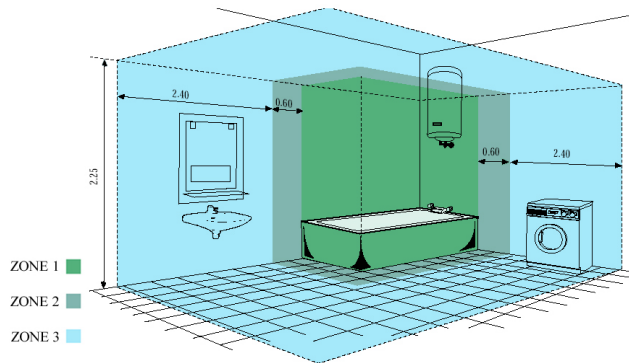

Figure 1 : Classification of the Bathroom Zones
- The electronic thermostat is a class II apparatus and it is protected from water contact. In the bathroom it may be mounted in the zone 2 and 3 (see figure 1): TH-RAD cannot be touched by person using the bath or shower.